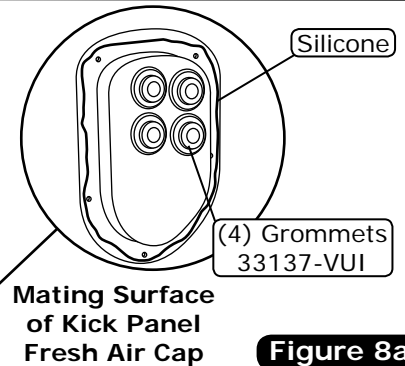

Figure 8a
1. Install (4) grommets into the kick panel fresh air cap as shown in Figure 8a, below.
3. Apply a 1/4" bead of silicone around the mating surface of the kick panel fresh air cap as shown in Figure 8a, below.